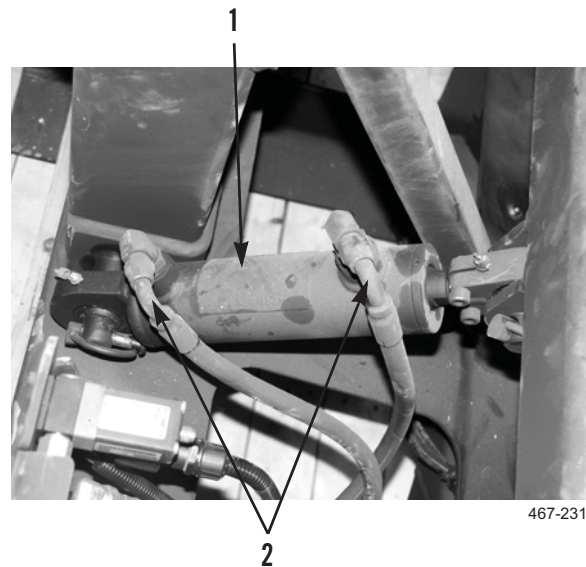

Figure 5. Stowage Guide Actuator Hose Installation.
3. Install two hoses (Figure 5, Item 2) on stowage guide actuator (Figure 5, Item 1).